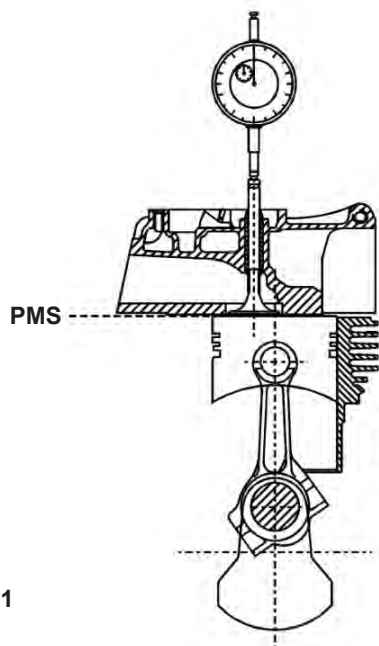

Fig. 1
4. Rest the valve top on the crown of the T.D.C. balanced piston (fig.1).
5. Position a comparator mounted on a magnetic pedestal or dummy injector and reset it on the valve stem (fig.1).